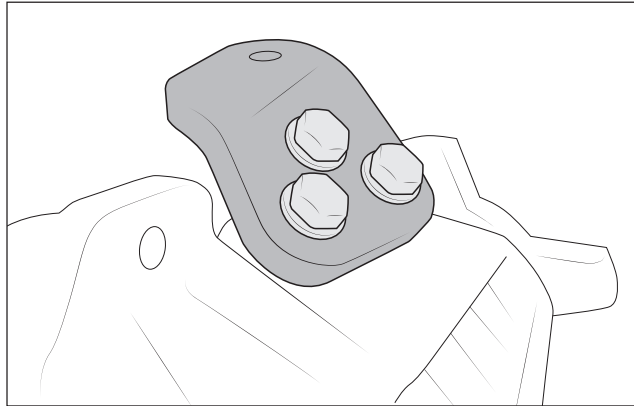

Figure 9
- A. Install top mount above pinion reusing factory bolts and washers torqued to 81 ft-lb (fig. 9).